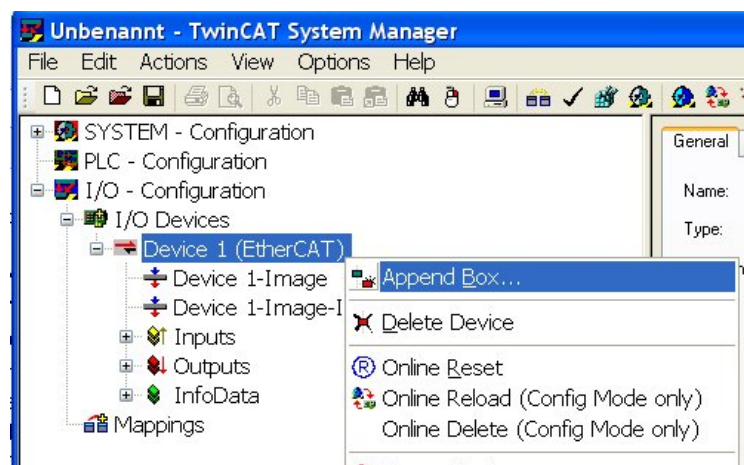

Fig. 14 Function of "Append Box"
- ➔ Click **Append Box** in the Context menu of the inserted EtherCAT device (see Fig. 14).
Besides the **Cube67+ BN-EC / Module 1 (56527)**, Line 0 (**Module 2 (Branch 0)**) is also inserted in the configuration automatically after the bus node (Fig. 14).